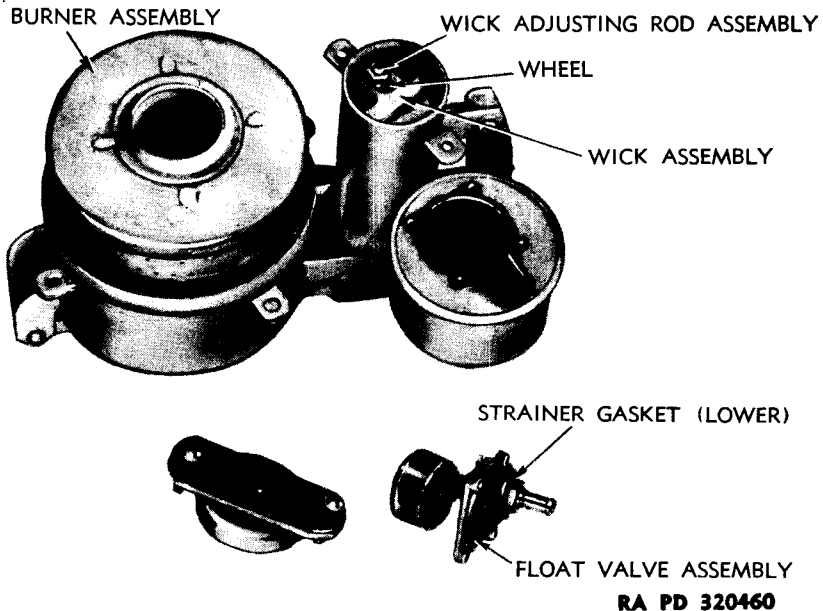
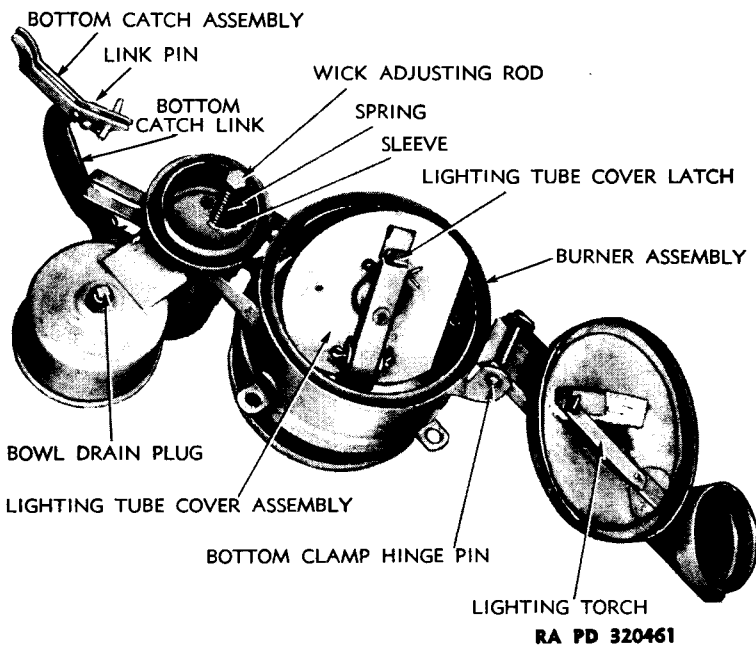

Figure 46 — Wick Assembly in Burner
Figure 47 — Burner Assembly—Bottom View
d. Remove Wick Assembly and Operating Bolt (fig. 46). Open bottom covers of burner unit. Pull wick adjustment up against spring pressure until wick assembly can be removed from adjusting bolt sliding sleeve. Hold head of bolt, loosen lock nut over sliding sleeve from which wick was unhooked and remove lock nut, sleeve, and sleeve nut. Unscrew adjusting bolt from remaining adjusting nut, and remove nut. Remove adjusting bolt, spring, and guide from bottom of burner assembly.
e. Remove Burner Cover Assemblies (fig. 47). Remove cotter pin and pin holding bottom clamp and cover assembly to burner. Remove two cotter pins and pins holding bottom catch link to burner and bottom catch assembly to link. Remove two cotter pins holding lighting tube cover assembly to burner and catch to cover assembly. *NOTE: Remove above parts as they are released.*
a. Install Burner Cover Assemblies (fig. 47). Install lighting tube cover over lighting tube and install cotter pin. Install lighting tube latch with straight lug down and with tapered projections under spring bar inside cover clamp and install cotter pin. Install lighting torch into pocket of burner lower cover. Install assembly to burner assembly with hinge pin and cotter pin.
b. Install Wick Assembly and Operating Bolt. Install spring and sleeve onto wick adjusting bolt, and insert assembly up through bottom of wick housing (fig. 47). Install special wick adjusting nut onto upper end of bolt, and turn bolt into nut until tangs on nut engage slide on side of wick housing. Install sleeve wheel onto hub of special nut. Screw nut onto end of wick adjusting bolt with wheel up. Install lock nut. Screw lock nut down until first thread of adjusting bolt just shows through lock nut. Turn sleeve wheel nut against lock nut and tighten. Lift the wick adjusting bolt to its highest position, place the wick so that it straddles the partition in the wick housing, and enter the U-shaped fork in the groove of the brass wheel on upper end of adjusting bolt (fig. 46). Install wick housing cover assembly with two screws and lock washers.